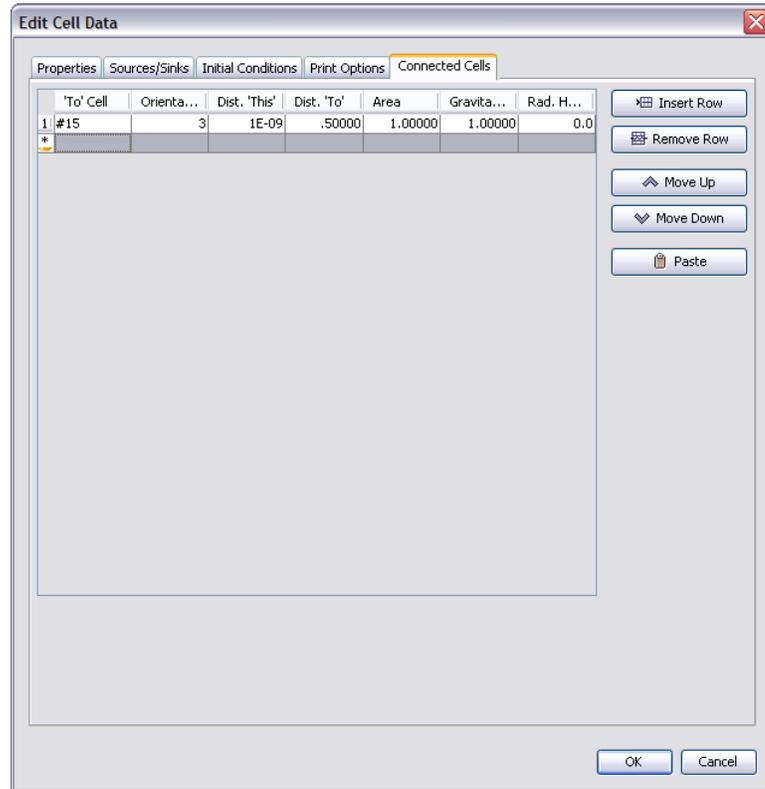

Figure 7.4. Top extra cell
18. Click the **Connected Cells** tab. This table is used to input all the information that will connect this cell to the model. Enter the values from Table 7.5, which correspond to the input required by TOUGH2 for a CONNE connection record, Figure 7.4.